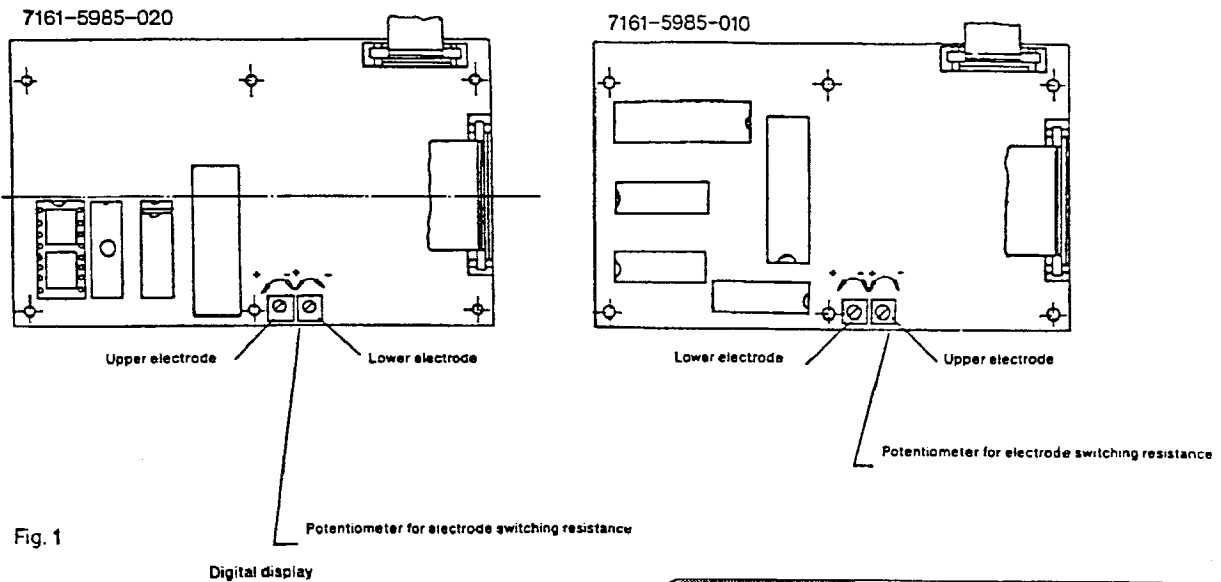

Fig. 1
- h. With a small screwdriver, turn the potentiometer for the upper electrode on the printed circuit board while watching the indication on the front plate (see fig. 1 below).
- n. Turn the potentiometer for the lower electrode (see fig. 1 below) on the printed circuit board until the symbol of the lower electrode lights up in the display.